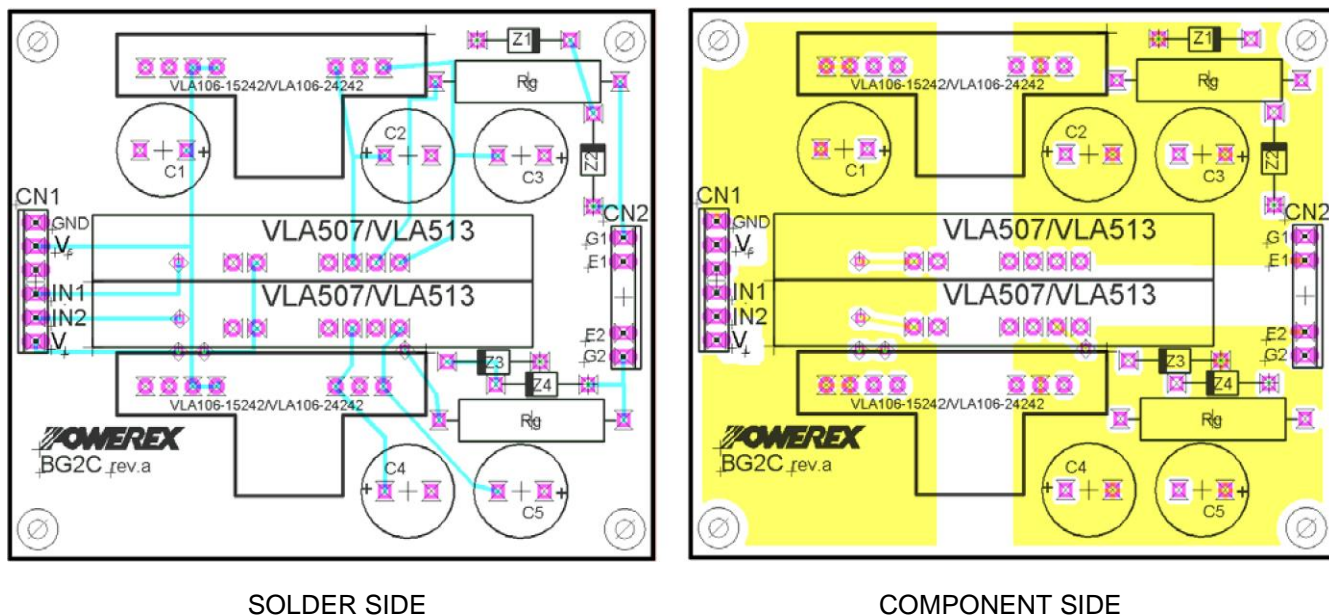

Figure 5: BG2C Printed Circuit Board Layout
**Printed Circuit Layout:** Figure 5 shows the layout of the BG2C two channel gate driver board. The compact 2.7" x 2.4" circuit board with only 17 components clearly demonstrates the advantage of using hybrid gate drivers and DC-to-DC converters. One important feature is the use of three ground plane islands for the regions of the PCB having high voltage differences. Two of the islands are tied to the IGBT emitter/circuit common (Pin 2 of the DC-to-DC converters) of each output channel. The third island is connected to logic interface common at Pin 6 of CN1. This layout provides shielding to help prevent undesirable coupling of noise between the control side and the gate drive channels.
**Additional Information:** Detailed information about the operation and electrical characteristics of the VLA513-01R hybrid gate driver can be found on the individual device datasheets. Electrical characteristics such as input voltage range, efficiency, and output voltage regulation of the VLA106-15242 and VLA106-24242 DC-to-DC converters can also be found on the individual device data sheets. Information about calculating gate drive current and selection of series gate resistors ( $R_G$ ) can be found in the general IGBT module and gate drive application notes. For applications using higher current IGBT modules refer to the application notes for the VLA502-01 hybrid gate driver and BG2A reference design. All of these documents are available on the Powerex website at [www.pwr.com](http://www.pwr.com). For design assistance with any of the products covered in this application note contact Powerex at (724) 925-7272 and request application engineering. For product pricing and availability call the Power Line: 1-800-451-1415